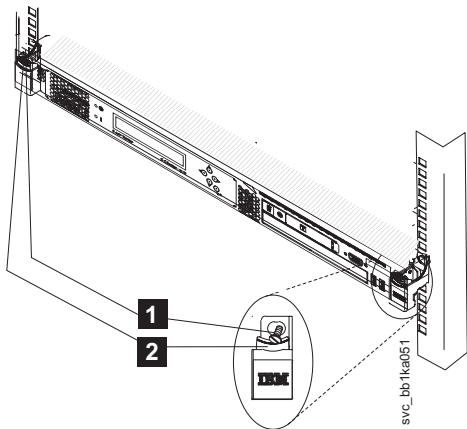

Figure 10. Release latches and mounting screws of the SAN Volume Controller 2145-CG8 or 2145-CF8
- a. Remove any optional M6 screws, as shown by **1** in Figure 10 on page 28, from the front of the node.